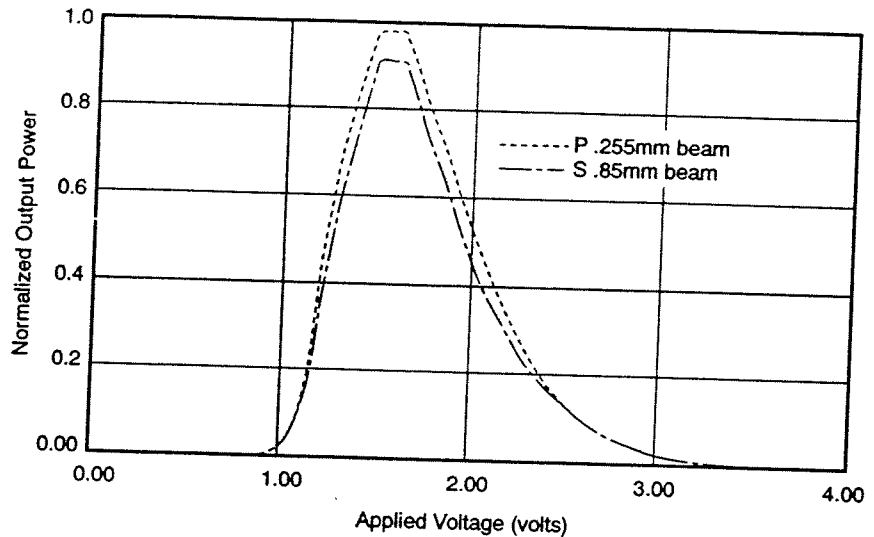

Figure 2.4 — Transmission vs. Voltage
- e) Slowly increase the voltage using the voltage control knob. The transmission of the beam should decrease then increase again. (see figure 2.4)